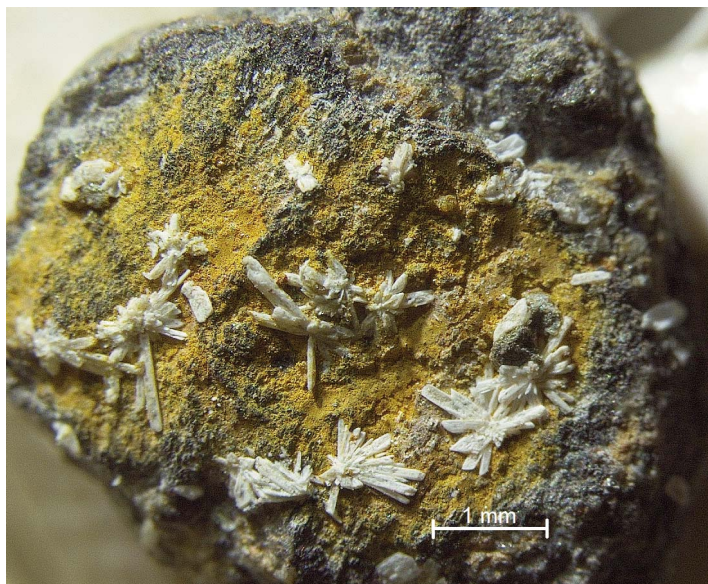

Figure 4. Cutting sample from the well KG 14017-2 in Tioga County showing white crystals of gypsum about 1 mm long. Photograph by Aaron Bierly.
While describing the well cuttings, Aaron Bierly, a staff geologist, discovered white crystals on the sandstone cuttings from a depth of 300 feet (Figure 4). SEM (scanning electron microscope) analysis (Figure 5A) showed that the crystals contained calcium, sulfur, and oxygen, and probably constitute gypsum, CaSO_4 . John Barnes (another staff geologist), who ran this analysis, also found a small amount
Figure 5. (A) EDS (energy-dispersive spectrometer) spectrum of one of the crystals shown in Figure 4, and (B) SEM photomicrograph showing radiating gypsum (CaSO_4) crystals and melanterite ($\text{FeSO}_4 \cdot \text{H}_2\text{O}$) patches above the letters "WD." Analysis and photograph by John Barnes.